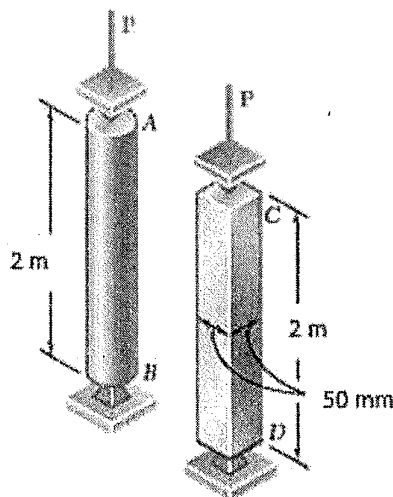

Figure Q4
- Q4** Two columns of the same material and length, one with a circular cross-section of radius  $R$  and the other with a square cross-section of side length 50 mm, are subjected to the same compressive load as shown in Figure Q4. Given the modulus of elasticity  $E=210$  GPa and the length of the columns  $L=2$  m,